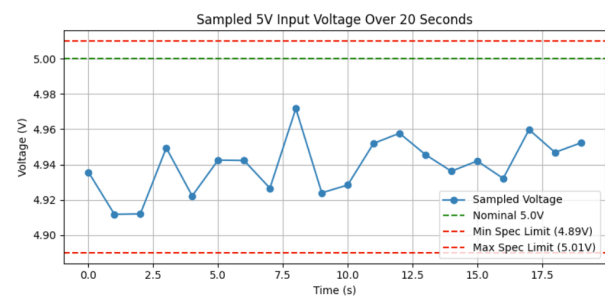

Figure 4: Enter Caption
- **Figure 4:** Magnetic field vs. distance curve